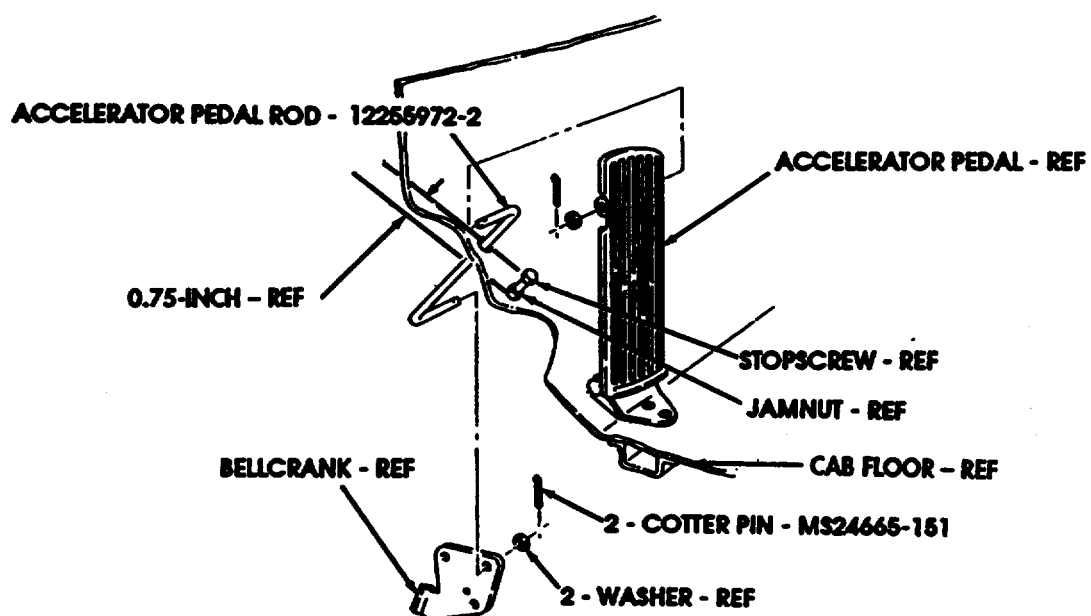

FIGURE 9
- (7) Install 12255972-2 accelerator pedal rod on bellcrank and accelerator pedal with two existing washers and MS24665-151 cotter pins as shown in figure 9.
- (8) Loosen jamnut and adjust stopscrew 0.75 in. (19.1 mm) from cab floor as shown in figure 9. Tighten jamnut.